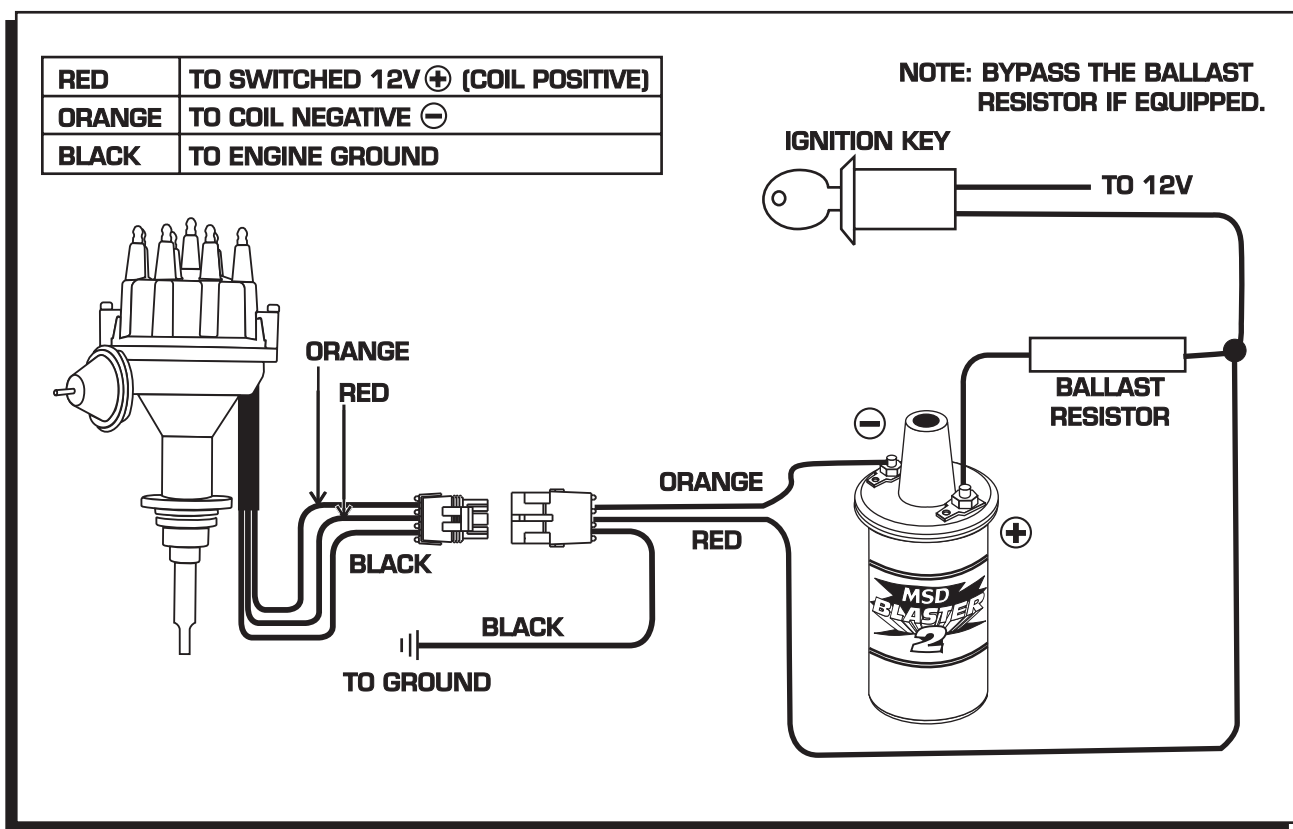

Figure 10 Wiring the Ready-to-Run Chrysler Distributor.
11. Connect the supplied wiring harness to the distributor. Route the wires to their connections as shown in Figure 10.